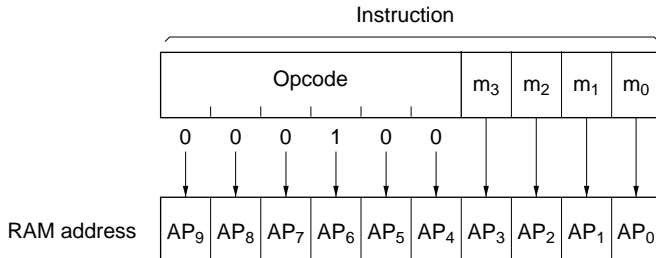

Figure 3-2 RAM Addressing Modes
The HMCS400 CPU supports the three RAM addressing modes shown in figure 3-2.
(1) Register Indirect Addressing Mode: Register indirect addressing mode instructions consist of one word, and use the W, X, and Y registers to form a 10-bit RAM address. (See figure 3-2 (1).)
(2) Direct Addressing Mode: Direct addressing mode instructions consist of two words. The first word is the opcode and the second word specifies a 10-bit RAM address. (See figure 3-2 (2).)
(3) Memory Register Addressing Mode: Memory register addressing mode instructions consist of one word, in which the upper 6 bits specify the opcode and the lower 4 bits specify one of the memory registers 0 to 15. (See figure 3-2 (3).)